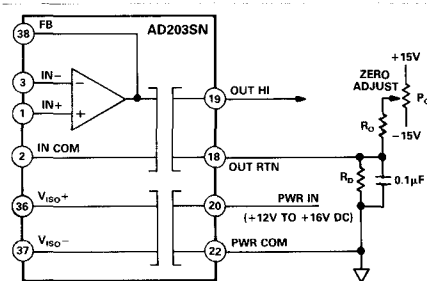

Figure 22. Output Side Offset Adjustment Circuit
**Offset Adjustment.** Figure 22 shows the recommended technique for offset adjustment at the output. In this circuit, the  $\pm 15$  V dc voltage is supplied by an independent source. With reference to the output circuitry shown in Figure 22, the maximum offset adjustment range is given by: